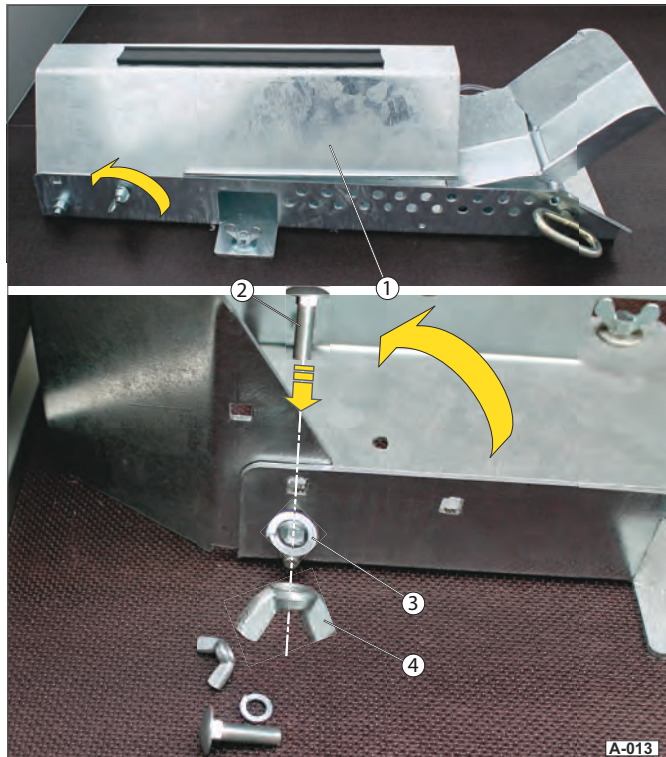

Fig. 13 Unfolding motorcycle stand
- ▶ Undo the screw connections (Wing nuts (Fig. 13 /4)) right / left.
- ▶ Fold the end plate (Fig. 13 /1) upwards.
- ▶ Insert the round-head screws (Fig. 13 /2) from the inside.